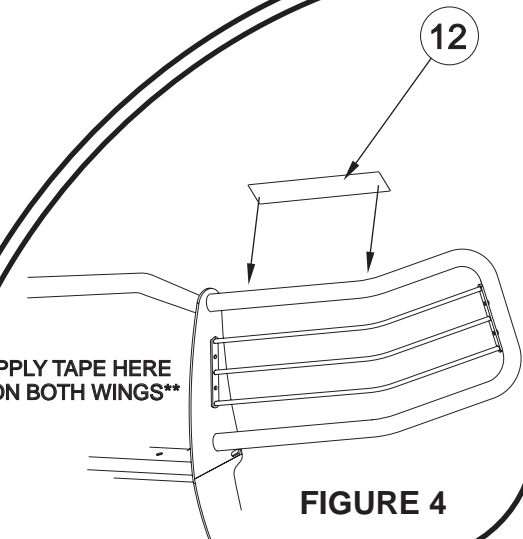

FIGURE 4
- STEP 5. If light glare is being experienced off the wings of the grille guard, anti reflective tape has been supplied to reduce glare. With headlights on, note where the reflection is concentrated on the wing. Clean the wing well with a non-abrasive cleaner (rubbing alcohol works the best.) Trim the anti-reflective tape to the appropriate size where the glare was located and apply tape. **SEE FIGURE 4.**